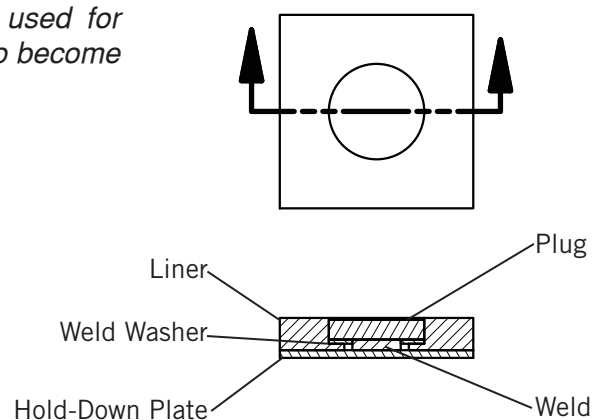

Figure 26
- 4) See Figure 26. Trace the rear hold down plate (1) onto the liner. Drill (14) 1" diameter holes equally spaced through liner.